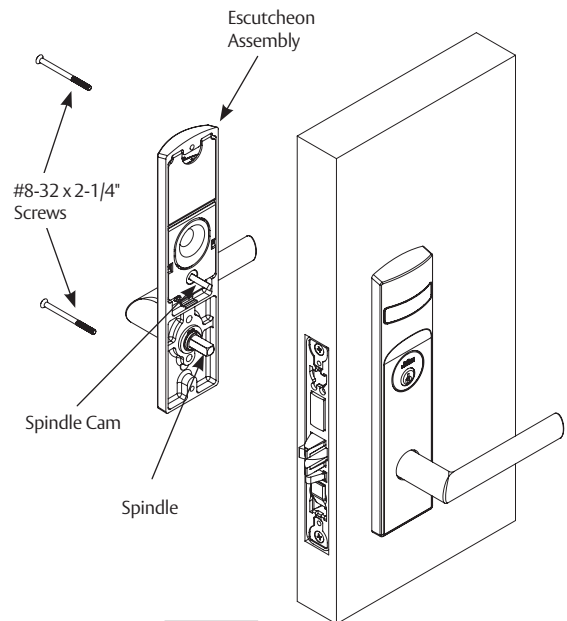

Figure 13
1. Install inside escutcheon assembly Using two (2) through-bolt screws. (Figure 13)